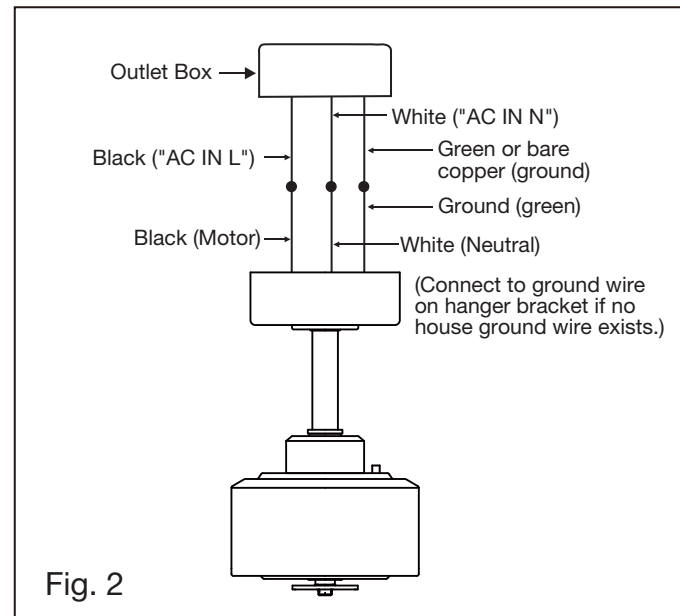

Fig. 2
- 3 Loosen the two security set screws and remove the downrod pin instead of cotter pin from the coupling on top of the motor assembly. (Fig. 2)
- 1 Connect the fan supply (black) wire to the black household supply wire as shown in Figure 2
- 2 Connect the neutral fan (white) wire to the white neutral household wire (Figure 2).
- 3 Fasten blade assembly to motor with provided screws and lock lockwashers. Repeat procedure for remaining blades. Make sure screws are **TIGHT!** Loose motor screws can contribute to unnecessary hum during operation. (Fig. 2)